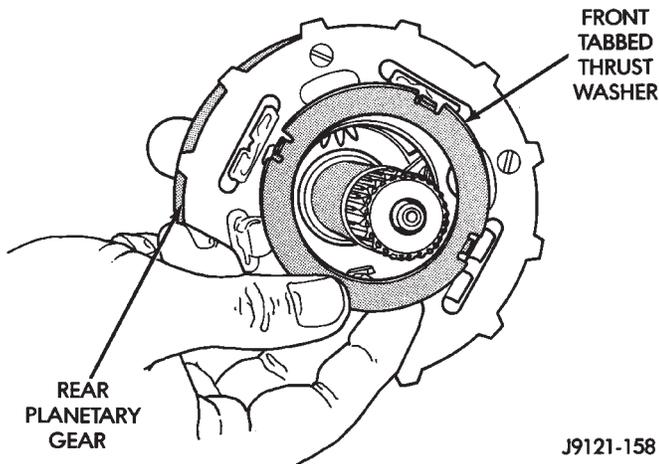

Fig. 194 Installing Rear Planetary Front Thrust Washer
(6) Install front thrust washer on rear planetary gear (Fig. 194). Use enough petroleum jelly to hold washer on gear. Be sure all four washer tabs are seated in slots.